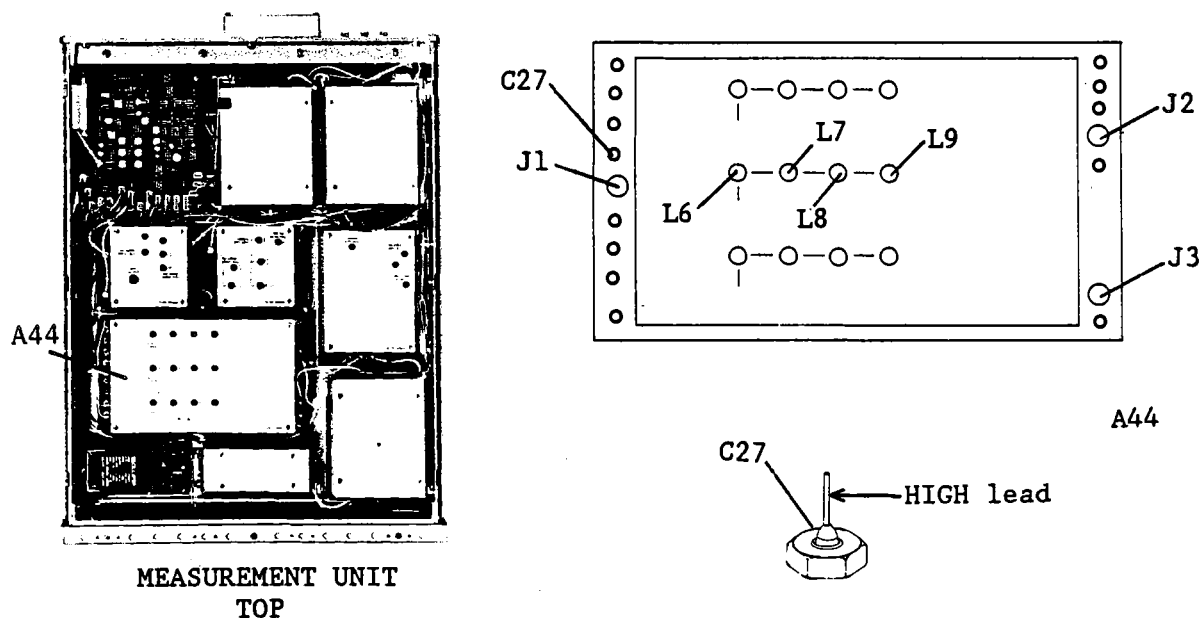

Figure A-9. 340 - 500 MHz Voltage Tuned BPF Adjustment Locations
6. Connect the Voltmeter input cable **LOW** lead to ground and its **HIGH** lead to the center pin of HP 4195A A44C27, as shown in Figure A-9.